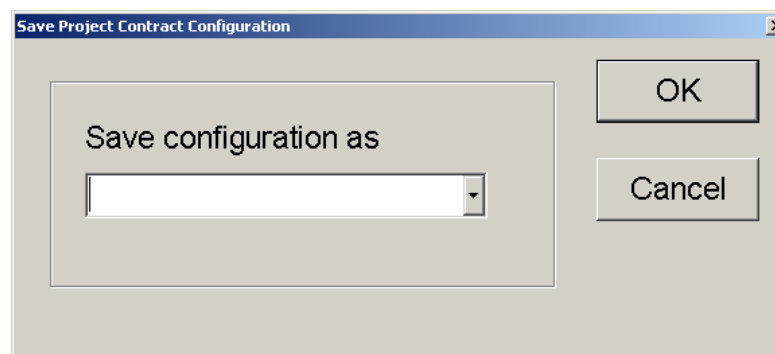

Figure 1.52 Save Configuration Window.
1. Click on **Configuration** | **Save Current** in the Project Report Window. The Save Configuration Window will appear as shown in Figure 1.52 prompting for a name.